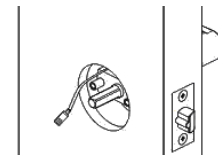

Figure 3
- C. Slide the outside half of the lock into the door, running the drive shaft through the latch and feeding the power cable above or below the latch in the door hole. (Figure 3)